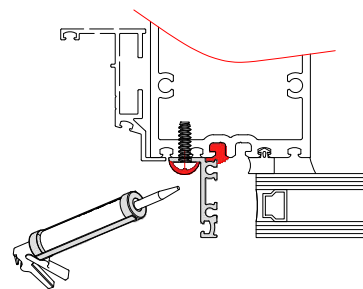

FIG. 6
- Seal all anchor heads with approved sealant. See **FIG. 6**
- Apply a continuous silicone seal around the perimeter of the surround. See **FIG. 6**